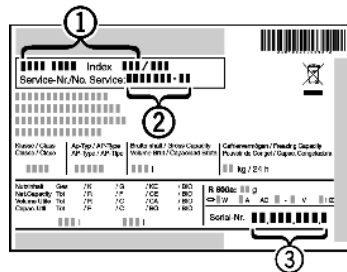

Fig. 17
- ▶ Read the appliance designation Fig. 17 (1), service No. Fig. 17 (2) and serial No. Fig. 17 (3) off the type plate located inside the appliance on the left-hand side.
- ▶ Notify the customer service, specifying the fault, appliance designation Fig. 17 (1), service No. Fig. 17 (2) and serial No. Fig. 17 (3).